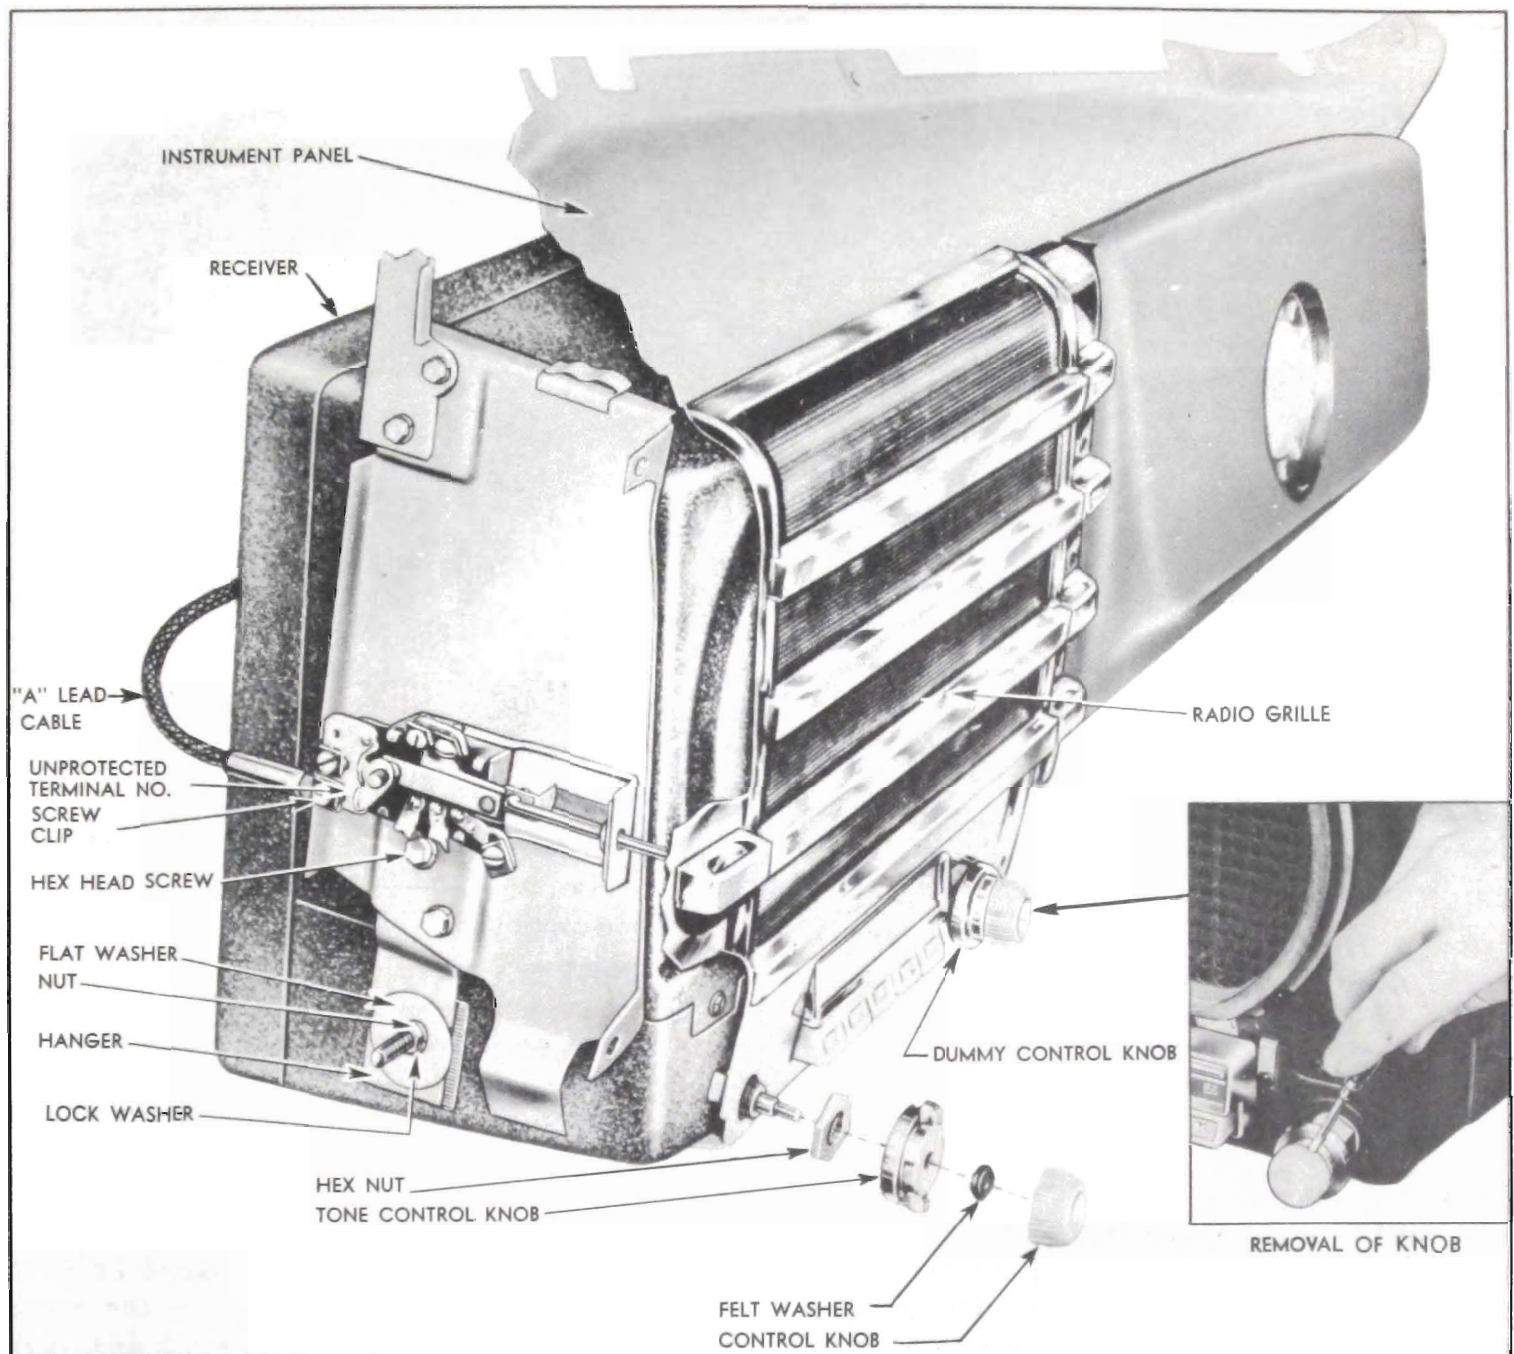

Figure 11-4—Radio Receiver Installation—Series 40
4. Bolt radio hangers to radio support brackets with slot openings toward front of car. See figures 11-4 and 11-5. Hangers are not interchangeable between Series 40 and Series 50-70.
6. Install and tighten hex nuts on threaded bushings. Hold receiver up until rubber gasket at speaker opening touches the back of speaker grille, then install large flat washers, lock-washers and nuts on receiver studs and tighten nuts securely. See figures 11-4 or 11-5.
7. Install tone control and dummy knobs, felt washers, and control knobs. To install control knob, push knob on shaft as far as possible. To remove knob, insert a small screwdriver in slot on edge of knob and pry against the flat spring located inside of knob (fig. 11-4).